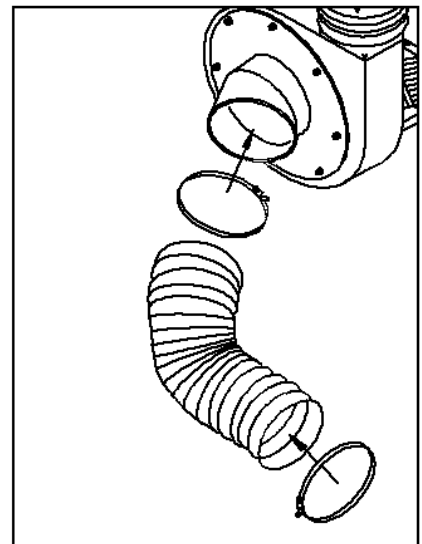

Fig. 9
8. Attach chute (40) to mower deck. Attach intake hose to chute and inlet (6). Secure each end with 6" band clamp (25). **Fig. 9**